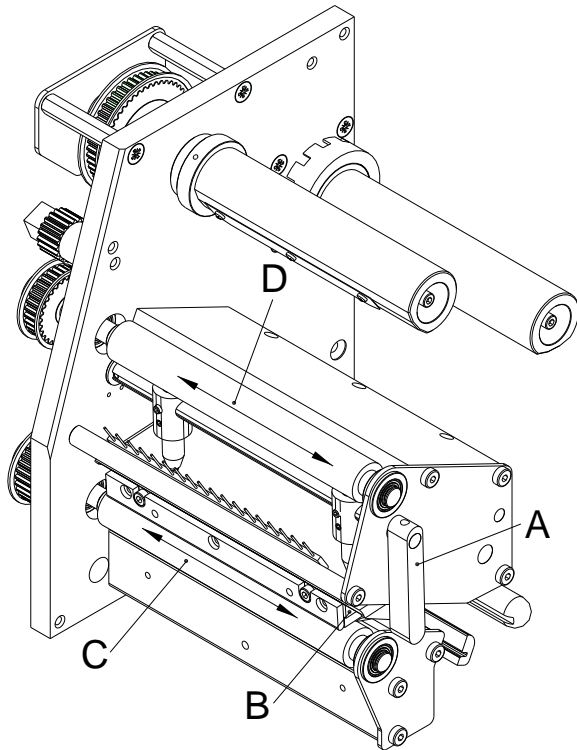

Figure 13
2. Turn the red lever (A, in Figure 13) counter clockwise to lift up the printhead.